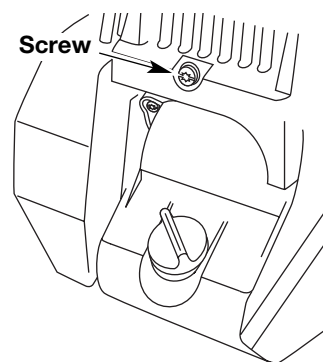

Fig. 36
3. Remove the screw behind the engine cover (Fig. 36).